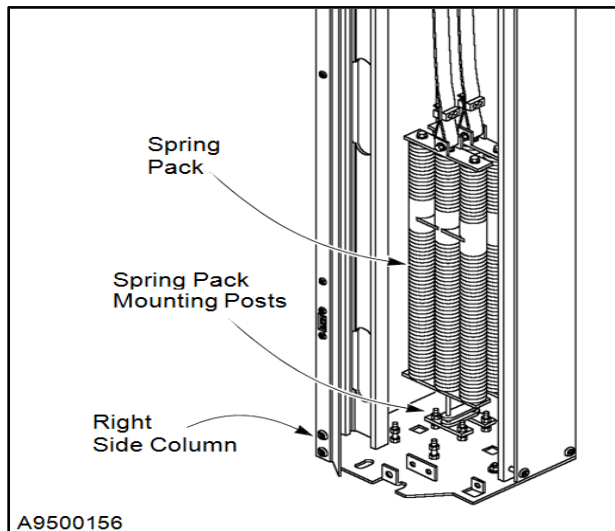

Figure 35
3. Inspect each spring pack assembly. Springs should not be stretched, worn, or damaged. Replace if necessary. Tighten the hardware as required. Replace any missing or damaged hardware. (See Figure 35.)